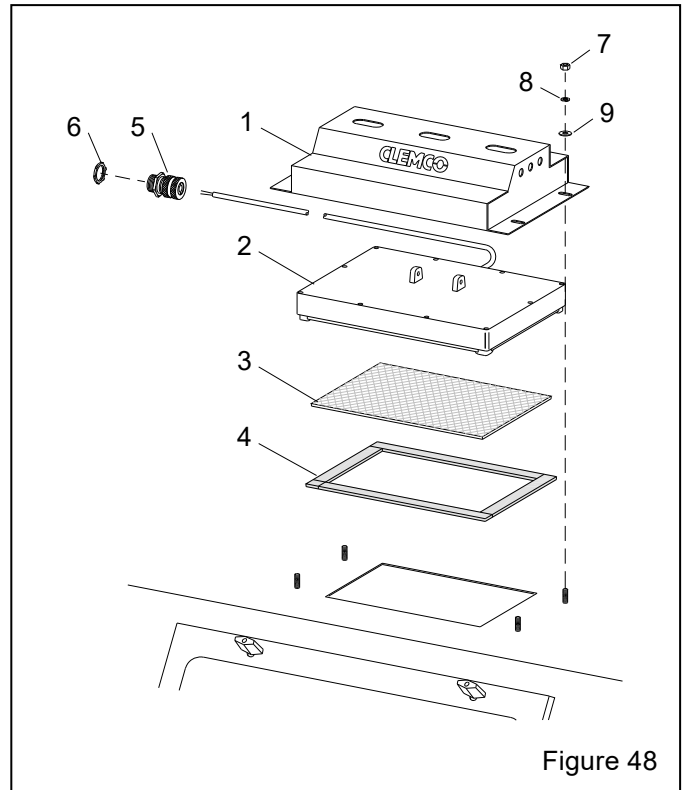

Figure 48
**9.7 Light Assembly – Figure 48**